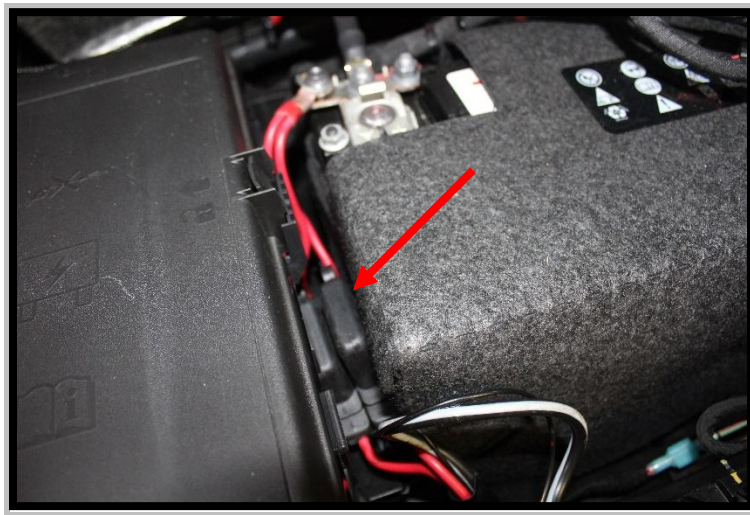

Figure 12 (Gas Engine Layout Depicted)
- 3-I) Go back to the engine compartment and attach the ARB harness to the battery. Crimp and use a heat source to attach and seal one of the provided ring connectors to each positive wire (**red**). Attach both to the positive (+) terminal of battery. Make sure the wires are secure and run in a fashion not to interfere with anything. Tuck the two fuse holders behind the battery between it and the fuse box (**Figure 12**, gas engine models). On diesel engine models the fuses can go in the back corner of the battery near the firewall. Repeat with the remaining ring connector to connect both negative wires (**black**) to the negative (-) terminal of battery. For both gas and diesel engine models, attach to the ground stud on the side of the fender (not the battery, it will not reach).